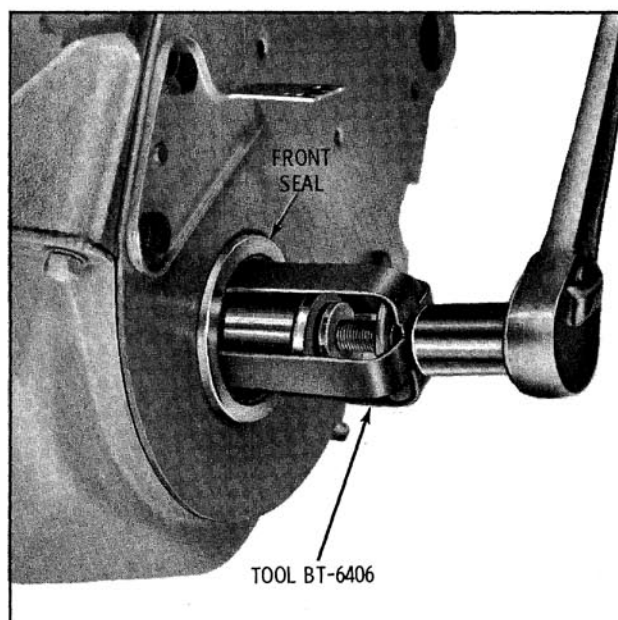

Fig. 3-91 Front Oil Seal Removal
3. Using Tool BT-6406, remove oil seal as shown in Fig. 3-91.